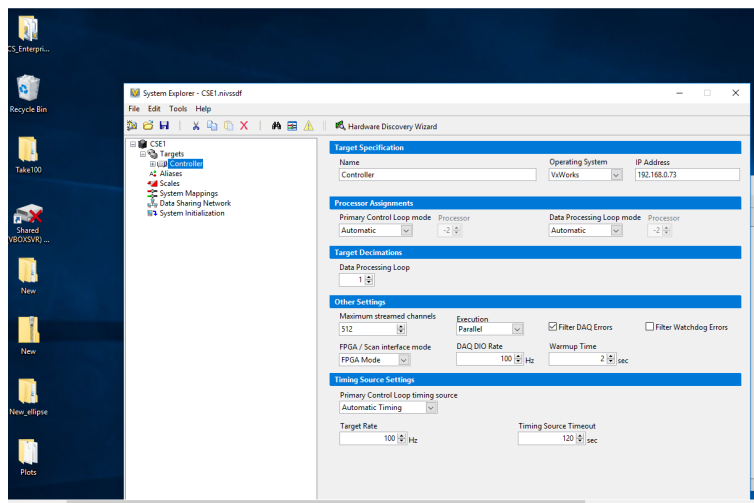

Figure 6
6. Ensure that the Target-IP found in the project file Veristand/Controller is correct. (See Figure 6)